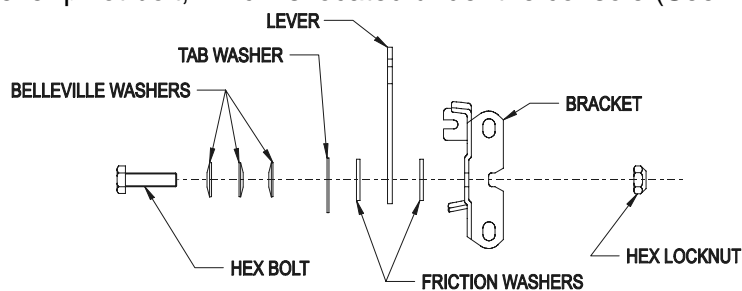

FIGURE 17
- b) Tension in throttle lever can be adjusted by adjusting the tightness of the lever pivot bolt, which is located under the console (See Figure 17).